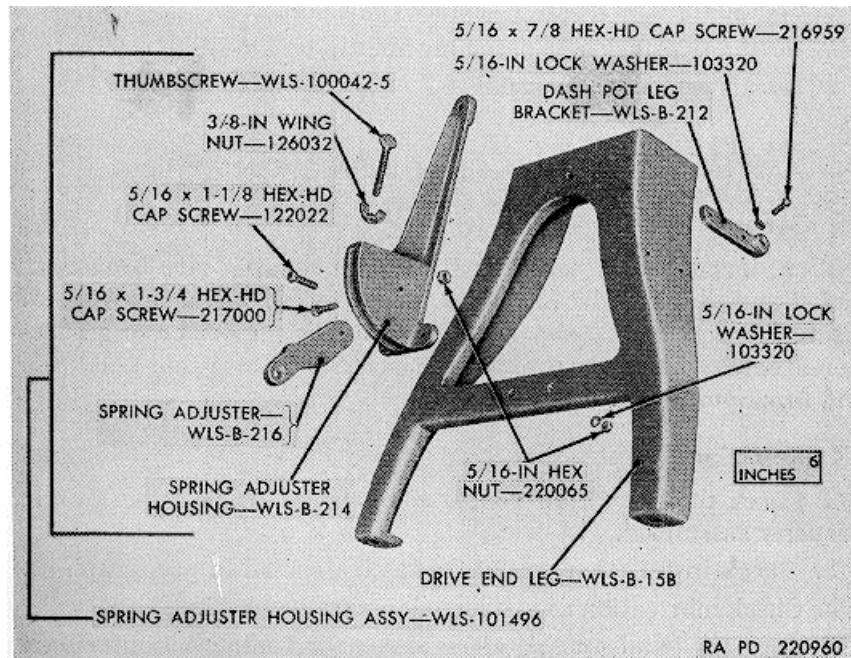

Figure 47. Drive end leg and spring adjuster housing assembly—exploded view.
### **92. Disassembly** (fig. 47)
### 94. Assembly (fig. 47)
- a. Position the spring adjuster as in figure 47 and slide it into the slot in the spring adjuster housing.